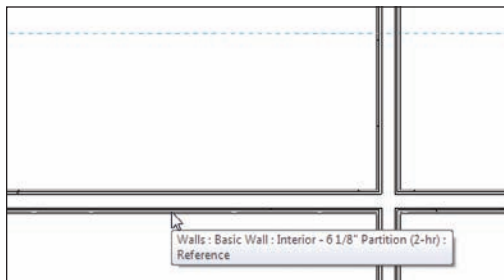

FIGURE 2.41 Adding yet another reference plane to the model. You will delete this one.
4. From the finish inside face of the top, horizontal corridor wall, offset the reference plane up (see Figure 2.41).